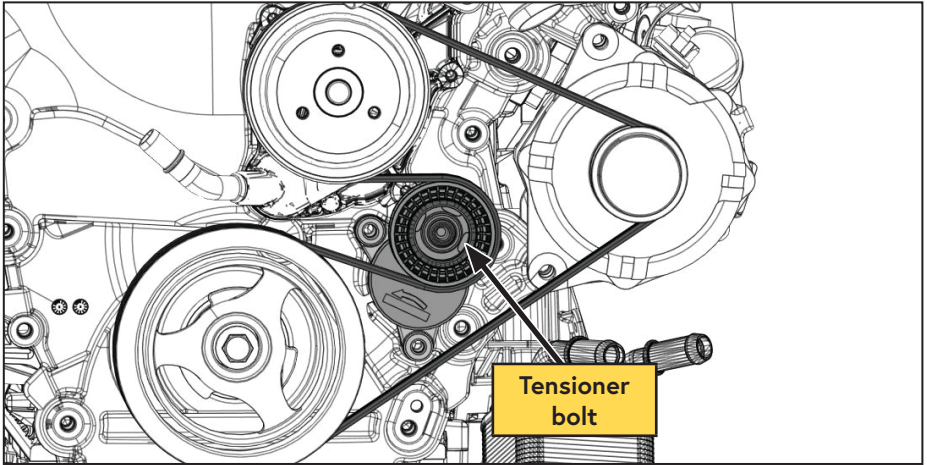

Figure 13 — Remove 6 rib belt
- From underneath the vehicle, use a 15 mm serpentine belt wrench to release the tension and remove the OEM 6 rib belt from the crank pulley. Tuck the belt out the way (Figure 13).